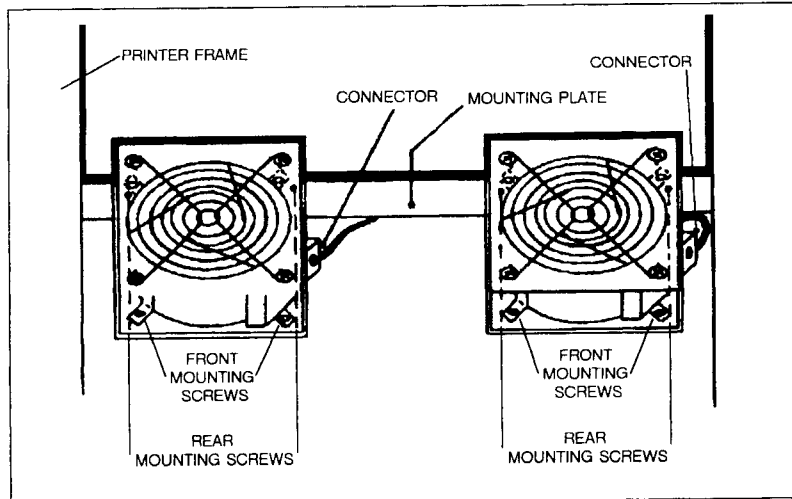

Figure 6-25. PCA Ventillation Fans
- a. Switch the printer offline and the ON/OFF switch to the OFF (0) position.
- c. Unplug the connector on the side of the fan (see Figure 6-25).
- d. Remove the four Pozi-drive screws from the top side of the fan housing, as shown in Figure 6-25.